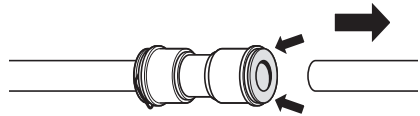

Fig.2 Releasing water coupler
- ② Release the water coupler: press and hold in the collet as shown (Fig.2) and remove the water tube.